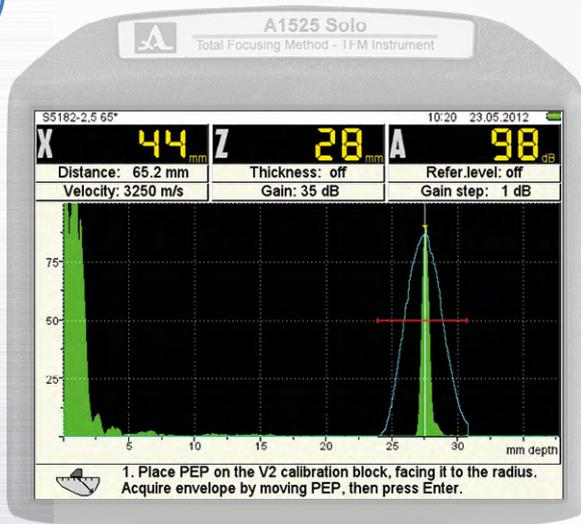

FIGURE 27
- 3) **Follow the directions displayed on the screens** shown in Figures 27,28, and 29). Upon accepting the results, the instrument is calibrated.